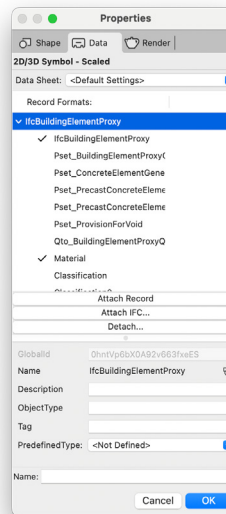

FIGURE 20D: IfcBuilding-ProxyElements pSet chosen enabling IFC fillable data fields
4. Select the IFC object type and click **OK**. The IFC Data dialog box opens in the Object Info Palette (also can be seen similarly in Properties dialog) (Fig. 20d). Under **Record Formats**, select the property set to attach to the IFC object by adding a check mark under the **Use** column. You can select multiple property sets. To enter the desired values for the properties of the selected data set, use the second pane to select the property and the **String** value field.